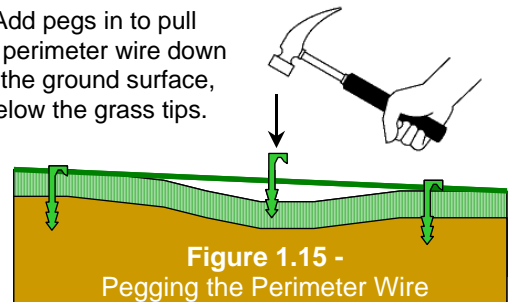

Figure 1.15 -
- Pegs should be driven at distances between one another that will keep the wire down below the grass level and prevent it from becoming a tripping hazard (Figure 1.15).